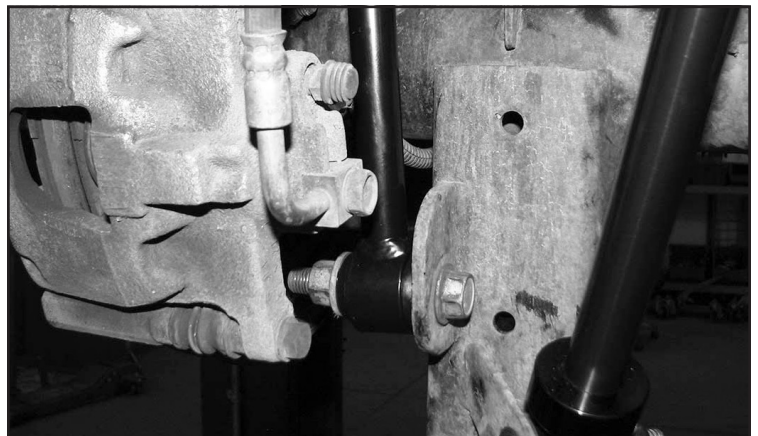

**FIGURE 34 - STEP 29**
29. Install the supplied Fabtech shock using the factory upper hardware to mount the bar bin and the supplied 1/2" x 2 1/2" bolt, large USS washers, and hardware. (insert one large USS washer per side inside the shock mount with the shock) Torque the upper hardware to 58 ft. lbs and the lower to 65 ft-lbs. **SEE FIGURE 34**